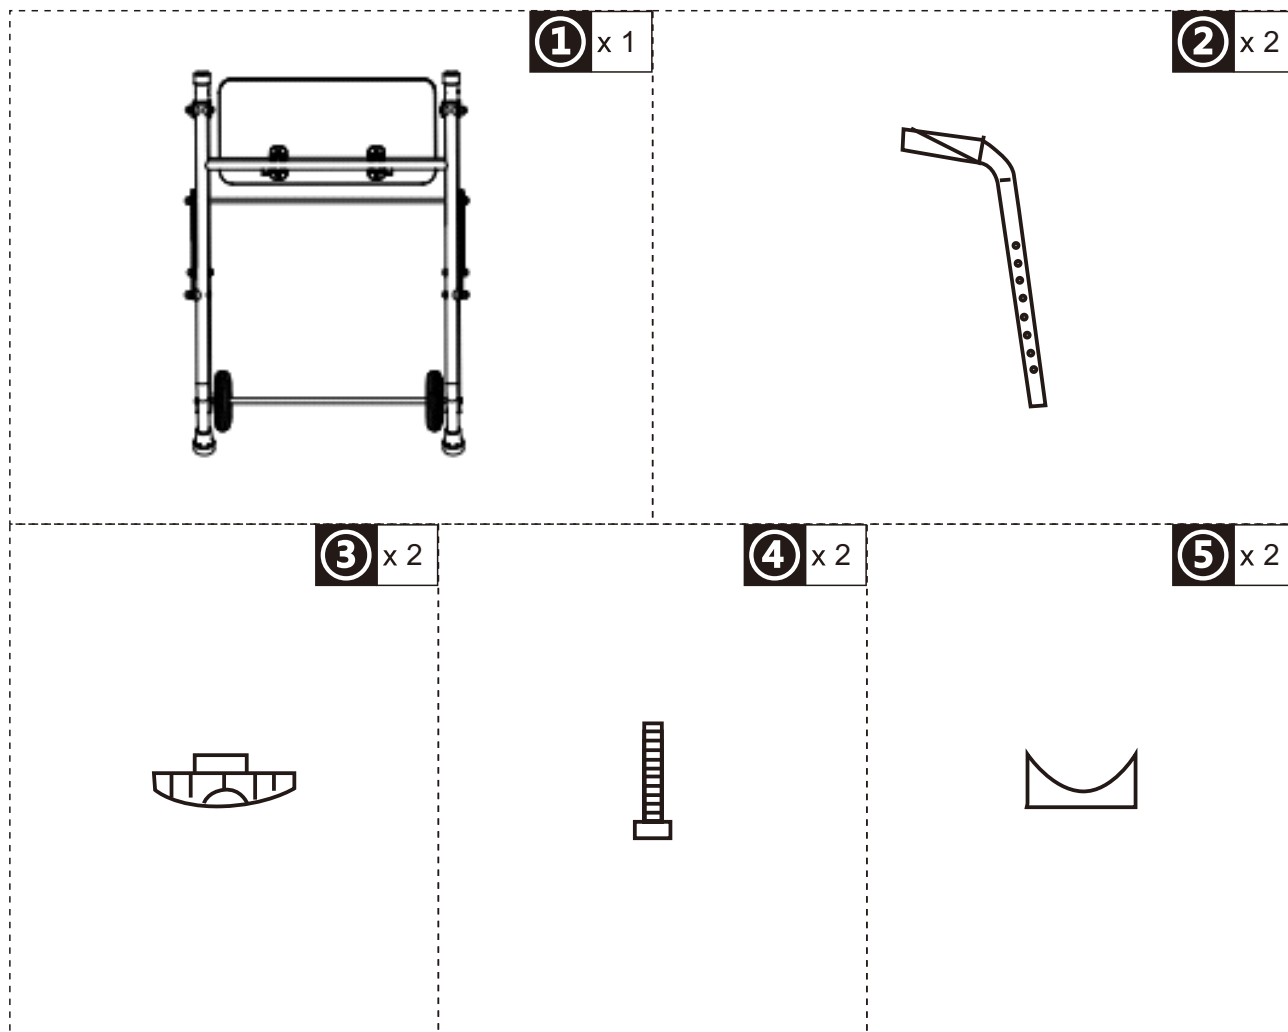

Figure 1
I. Preparation before assembly: After opening the packaging box, use scissors to cut off plastic zip ties and bubble wrap. Be careful to protect all parts inside the box. If assembling on the floor, lay cardboard or carpet on the ground to prevent scratches. Properly distinguish and organize all parts and components. Remove the inner carton and take out the parts, arranging them neatly. The loose parts in the packaging box are shown in Figure 1:
II. Assembly Instructions (Please refer to the part names and numbers in Figure 1):